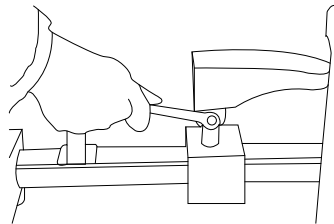

Fig. 4
3. Foot tip: should it be necessary to replace this, you can proceed by unscrewing the nut placed at the base of the foot shape, extracting the tip and replacing it with the one with the desired size. Fasten it by inserting the bolt back into the hole and tightening the nut. **(Fig. 4)**